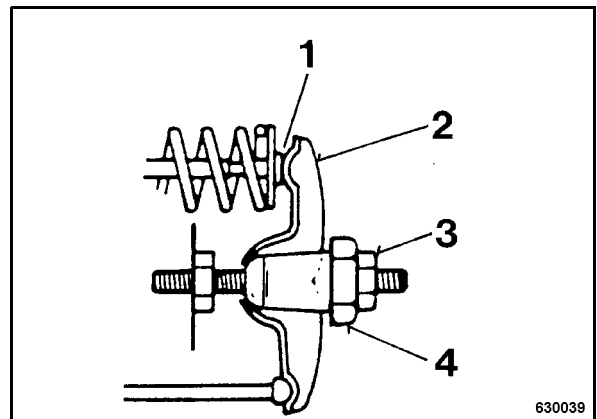

Fig. 63
- Hold hexagon nut (4) (Fig. 63) on the rocker lever and loosen counter nut (3).
- Adjust hexagon nut on the rocker arm so that the feeler gauge fits between rocker arm (2) and valve shaft (1) with noticeable resistance after retightening counter nut.